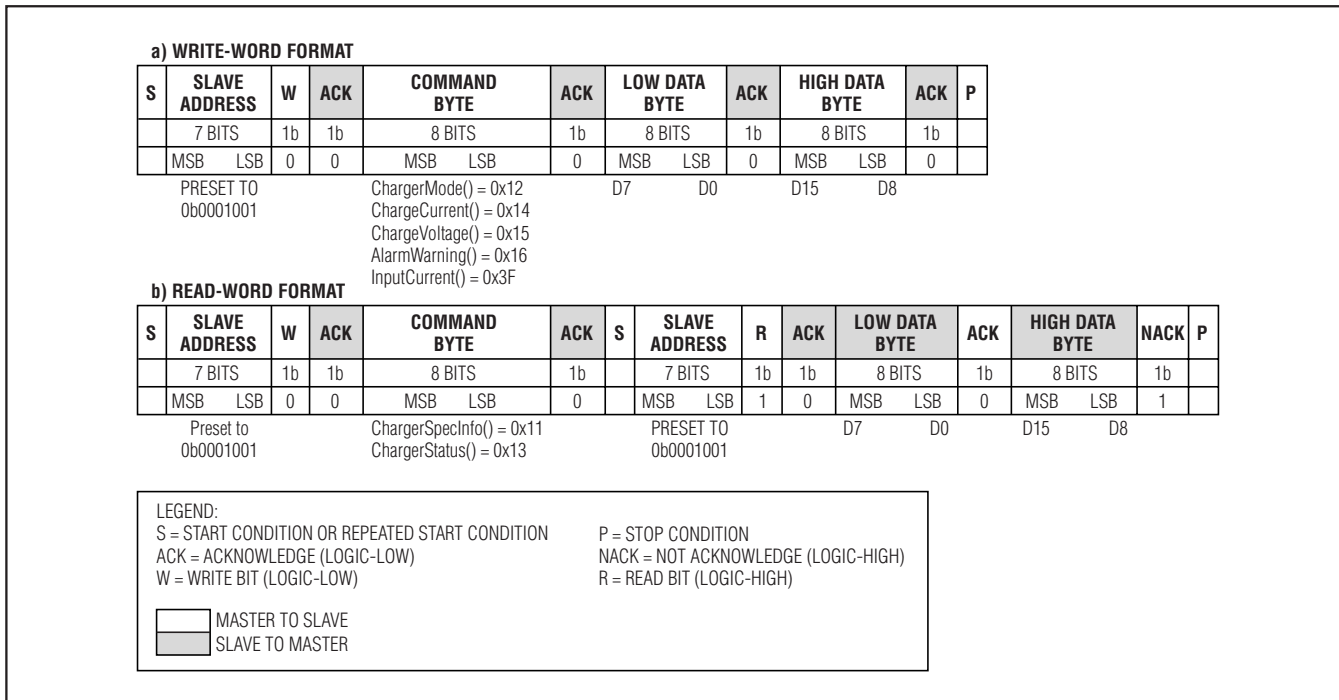

Figure 3. SMBus Write-Word and Read-Word Protocols
To set the charge current, use the SMBus to write a 16-bit ChargeCurrent() command using the data format listed in Table 2. The ChargeCurrent() command uses the Write-Word protocol (see Figure 3). The command code for ChargeCurrent() is 0x14 (0b00010100). When $RS2 = 10m\Omega$, the MAX8731A provides a charge current range of 128mA to 8.064A, with 128mA resolution. Set ChargeCurrent() to 0 to terminate charging. Upon reset, the ChargeVoltage() and ChargeCurrent() values are cleared and the charger remains off until both the ChargeVoltage() and the ChargeCurrent() commands are sent. Both DHI and DLO remain low until the charger is restarted.
To set the input current limit, use the SMBus to write a 16-bit InputCurrent() command using the data format listed in Table 3. The InputCurrent() command uses the Write-Word protocol (see Figure 3). The command code for InputCurrent() is 0x3F (0b00111111). When RS1 = 10m Ω , the MAX8731A provides an input-current-limit range of 256mA to 11.004A, with 256mA resolution. InputCurrent() settings from 1mA to 256mA result in a current limit of 256mA. Upon reset the input current limit is 256mA.
The MAX8731A receives control inputs from the SMBus interface. The MAX8731A uses a simplified subset of the commands documented in System Management Bus Specification V1.1, which can be downloaded from www.smbus.org. The MAX8731A uses the SMBus Read-Word and Write-Word protocols (Figure 3) to communicate with the smart battery. The MAX8731A performs only as an SMBus slave device with address 0b0001001_ (0x12) and does not initiate communication on the bus. In addition, the MAX8731A has two identification (ID) registers (0xFE): a 16-bit device ID register and a 16-bit manufacturer ID register (0xFF).